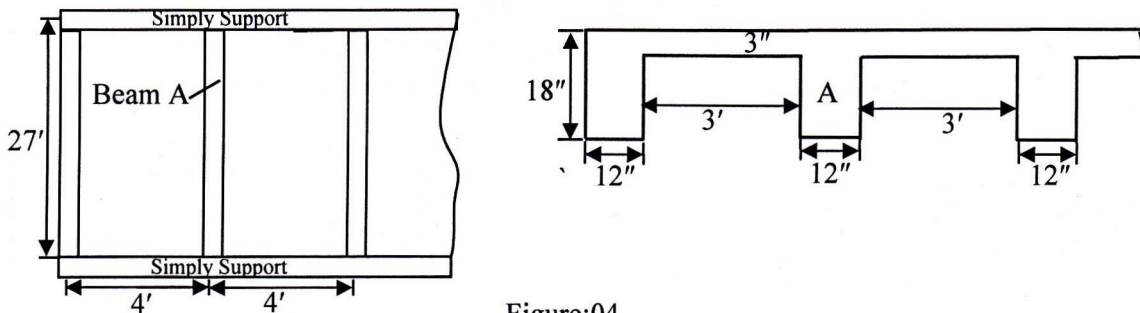

Figure:04
4. Architectural considerations specify the section of a RC beam to be 10 in. wide and 20 in. deep. Calculate the required reinforcements of the beam for the applied $M_{DL} = 53$ k-ft, and $M_{LL} = 105$ k-ft. Use **USD** method. (10)
5. (a) What do you understand by T-beam in RC construction. Write the criteria for selecting effective flange width of T-beam. (03)
- (b) Design the beam A as shown in Fig. 04. The slab is subjected to Floor Finish = 20 psf, Partition Wall = 50 psf and Live Load = 100 psf. [Machine load on beam is 2.5 k/ft.] (07)